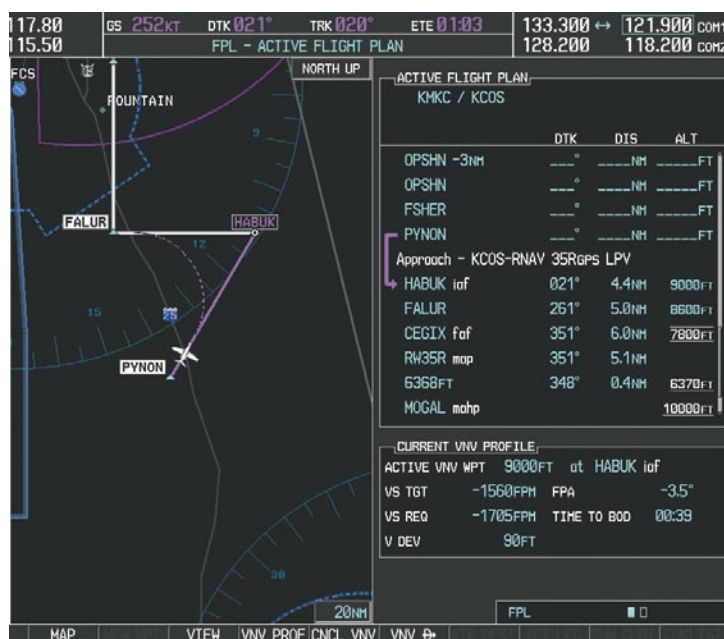

Figure 5-138 Approach is Now Active
- 21) Upon passing PYNON the approach procedure automatically becomes active. The approach may be activated at any point to proceed directly to the IAF. In this example, the aircraft has progressed through the final waypoint of the arrival and the flight plan has automatically sequenced to the IAF as the active leg, activating the approach procedure (see Figure 5-138).